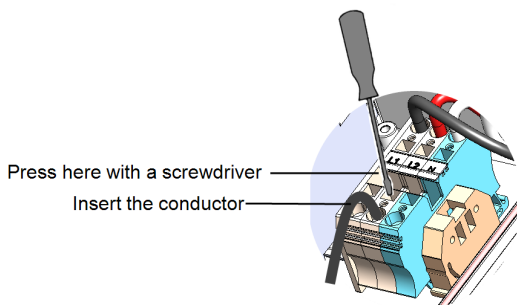

Figure 24: AC Spring-clamp terminal example - single phase 3-7.6kW inverter
- b. Insert the screwdriver and firmly tilt it to press the release mechanism and open the clamp (see *Figure 24*).